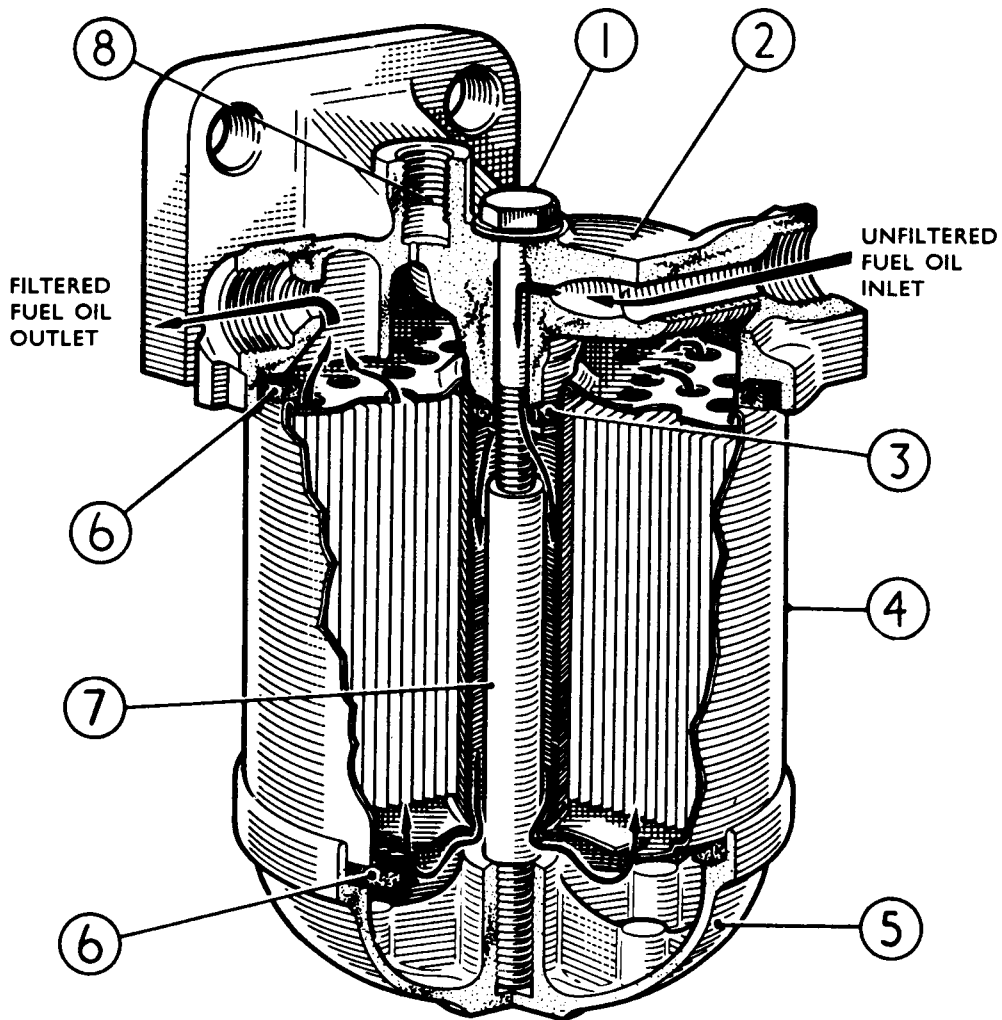

Fig. 4. FS Bowl-less filter, showing filter flow through element.
The construction of the FS filter and the two available directions of fuel flow through the assembly are shown in Figs. 4 & 5. The unit consists of the following component parts:—
The filter head is supplied with galleries drilled to provide for either filter flow or agglomerator flow. Filter flow is illustrated in Fig. 4 which shows the incoming unfiltered fuel passing through the centre bolt housing and into the base (7). It then passes upwards through the filter element and out through the filtered fuel outlet port.
As with the F2 type filter the venting orifice Fig. 4 (8) can be fitted with a gravity vent valve or a pressure relief valve as required, instead of the air venting plug normally fitted.